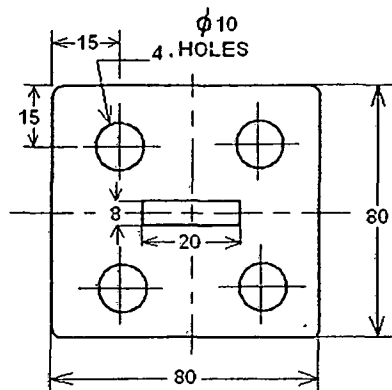

Fig.11
11. Design and give two views of a progressive die to be designed for producing the component shown in Fig.11. The sheet metal is of 3 mm thickness and made of Cold Rolled Steel of Shear strength 540 N/mm^2